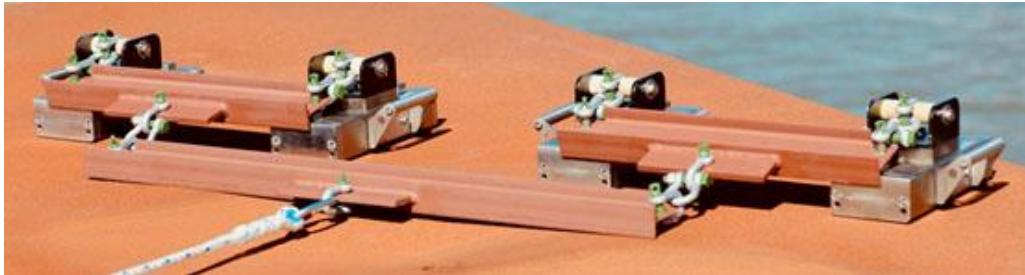

Figure 6. four MSAP's interconnected with the two short beams and one long beam.
- e. Interconnect the eyes of the two short beams with the long beam with the shackles. Write down the number of the long beam. See figure 6.